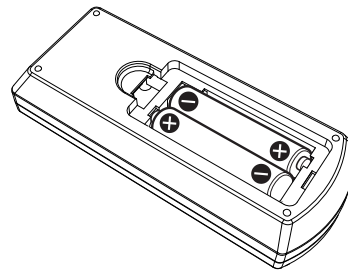

Fig.2
- 2) Insert the batteries and close the cover (insert the  side first). (Fig. 2)